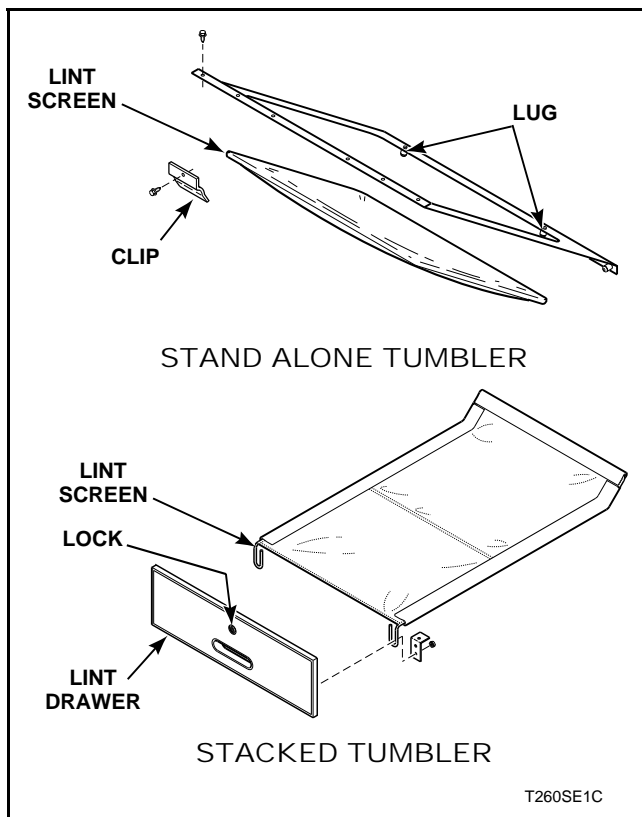

Figure 9
Unlock drawer and pull out. Refer to *Figure 9*.
Refer to *Figure 9*.
- Drop bottom of screen between lugs on bottom. Refer to *Figure 9*.